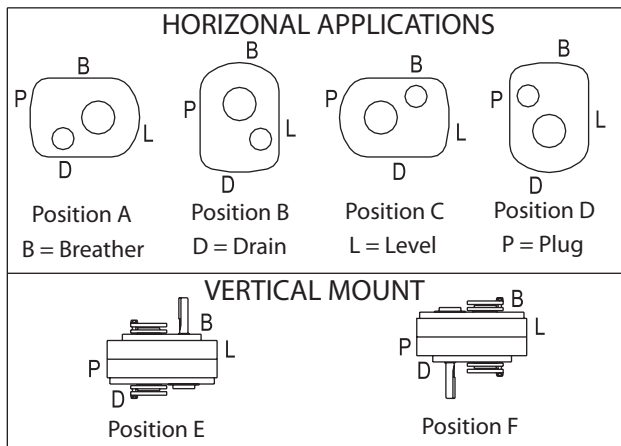

Figure 1 - Mounting Positions
2. Determine the running position of the reducer. (See Fig. 1) Note that the reducer is supplied with either 4 or 7 plugs; 4 around the sides for horizontal installations and 1 on each face for vertical installations. These plugs must be arranged relative to the running positions as follows:
The running position of the reducer in a horizontal application is not limited to the four positions shown in Figure 1. However, if running position is over 20' either way from position "B" or "D" in Fig. 1 sketches, or 5' either way from position "A" or "C," the oil level plug cannot be safely used to check the oil level, unless during the checking the torque arm is disconnected and the reducer is swung to within 20°/5° of the positions shown in Figure 1. Because of the many possible positions of the reducer, it may be necessary or desirable to make special adaptations using the lubrication fitting holes furnished along with other standard pipe fittings, stand pipes and oil level gages as required. 3.
^① Refer to Figure 1 on page 2 for mounting positions
NOTE: If reducer position is to vary from those shown in Figure 1 either more or less oil may be required. Consult Dodge Product Support.